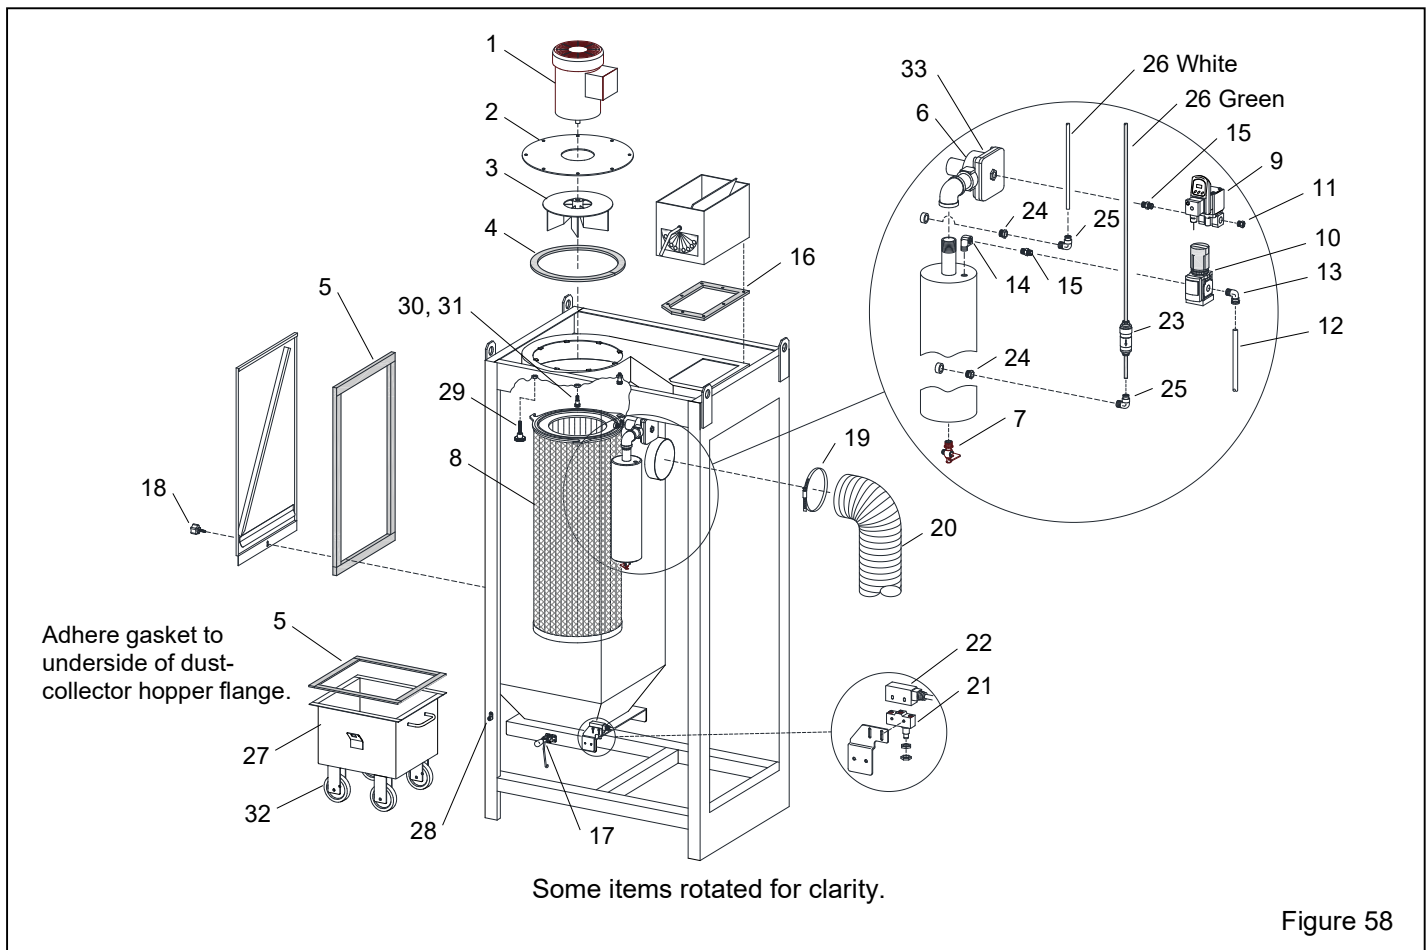

Figure 58
10.11 Dust Collector Assembly, 300 cfm Figure 58